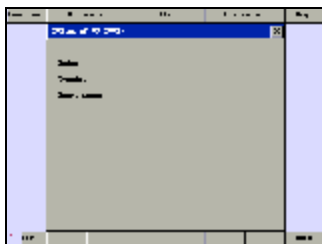

Fig.3.13
9. Select **Sedan** as shown in Fig.3.13.